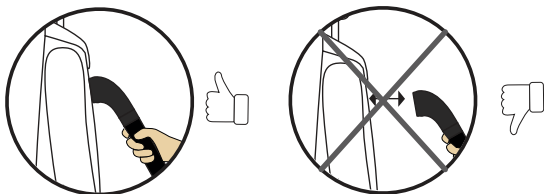

fig.21
- The steam head must be in contact with the garment. (fig.21)